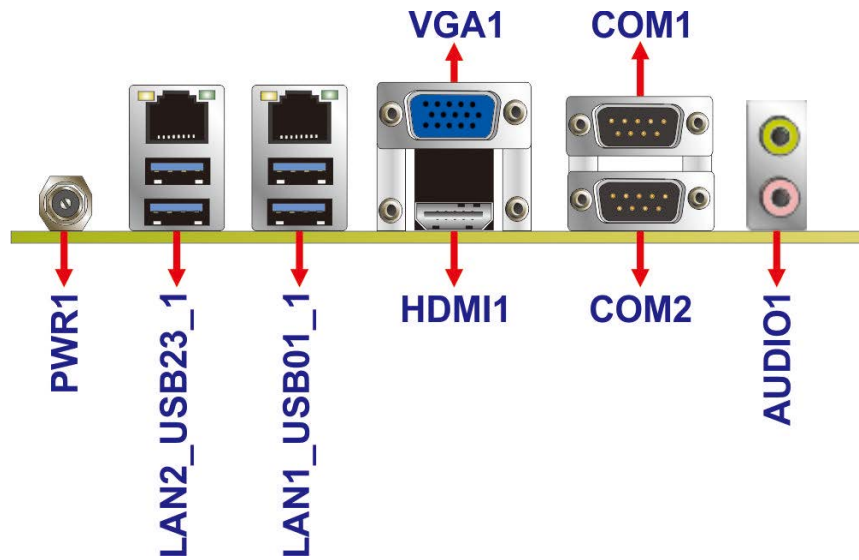

Figure 3-28: External Peripheral Interface Connector
Figure 3-28 shows the KINO-DAL external peripheral interface connector (EPIC) panel.
CN Location:	See Figure 3-28
- CN Location:** See **Figure 3-28**
CN Location: See **Figure 3-28**